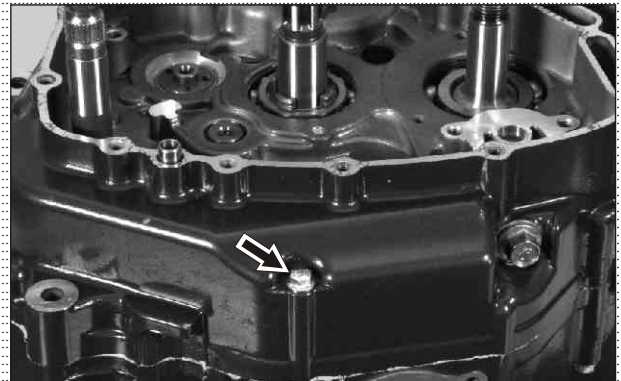

Fig. 3.88
- Remove hexagonal flange bolt (M6x55 - 1 no.) from the crankcase assembly R. (Fig. 3.88)